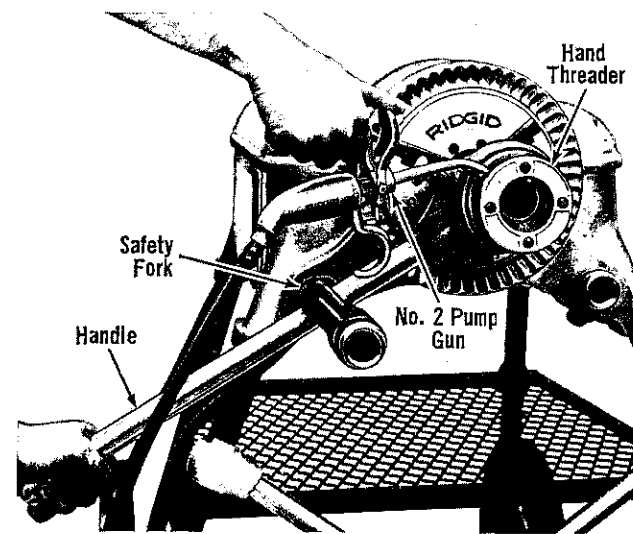

Figure 7. Oiling Hand Threader Dies.
Note: Threader is self feeding once Dies are engaged. Apply plenty of oil (Fig. 7) until threads are completed.
6. Push back Support Bar (Fig. 7) on switch side.